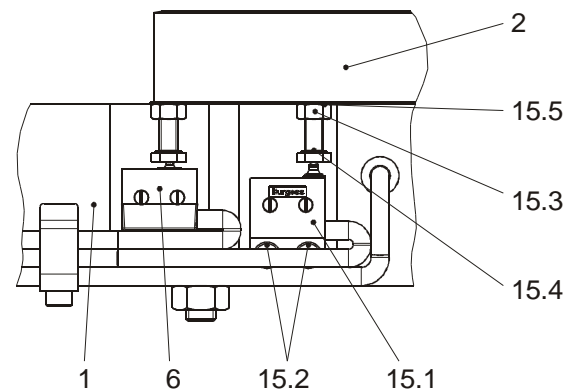

Fig. 10
Wear Monitoring (15) Fig. 10 (Option, dependent on Type)
Only one microswitch for wear monitoring (15) is required per ROBA[®]-twinstop[®], which is mounted onto the brake as shown in Fig. 10.
Manufacturer-side Adjustment and Functional Inspection of the Microswitch (15.1), see Fig. 10